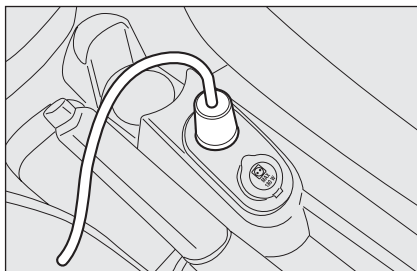
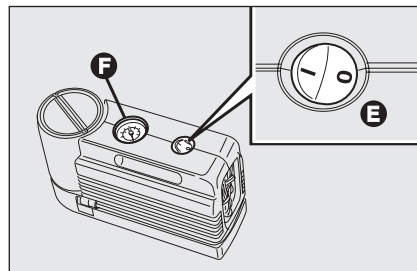

fig. 17
fig. 18
□ make sure that switch **E-fig. 18** on the compressor is in position **0** (off), start the engine, plug into the socket **D-fig. 17** and operate the compressor turning switch **E-fig. 18** to position **I** (on). Inflate the tyre to the pressure specified in the "Inflation pressure" paragraph in the "Technical Specifications" section. For a more accurate reading, check the pressure on gauge **F-fig. 18** with the compressor off: